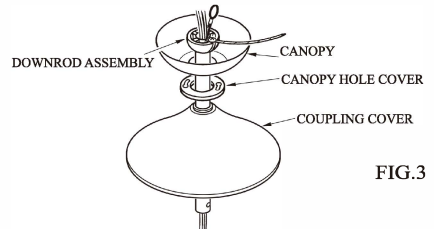

FIG.3
2. Insert the down rod through the center opening in the canopy,coupling cover and route the motor leads through the hanger ball/downrod assembly. Align the clevis pin holes in the downrod with the holes in the motor coupling. The clevis pin must pass through the holes in the motor coupling and the downrod. Place the washer onto the clevis pin and install the hairpin clip making sure to push straight leg of the hairpin clip through the hole near hanger ball to make sure the clevis pin is properly installed(See fig.3)